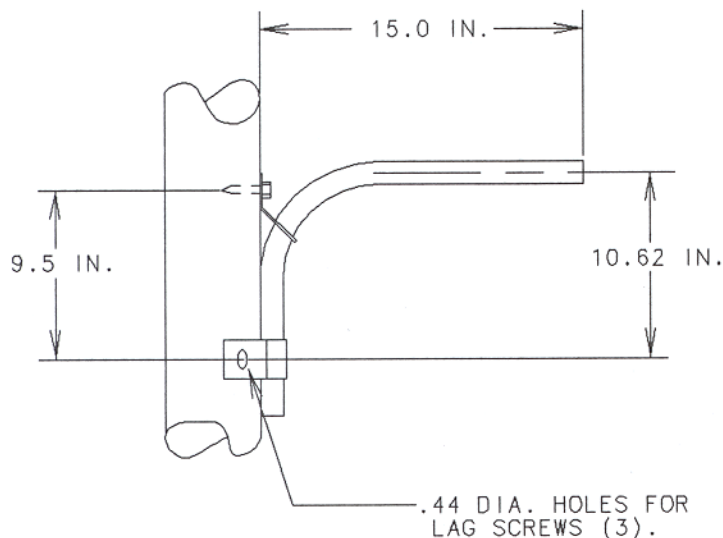

FIGURE 1
## (1) INSTALLATION OF PIPE BRACKET (SEE FIGURE 1)